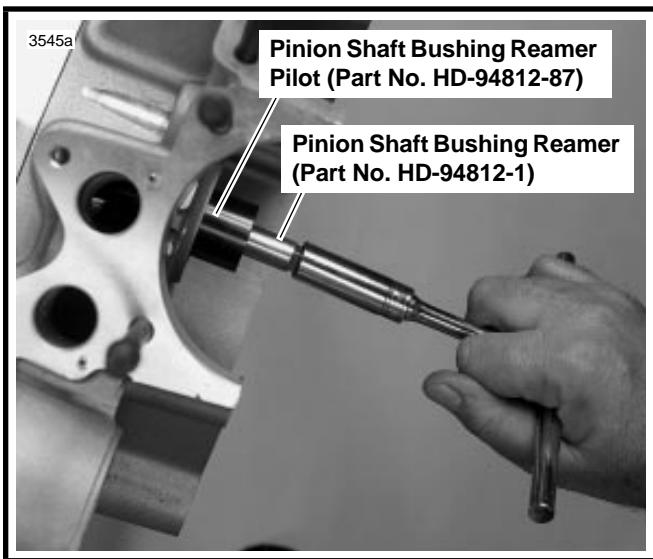

Figure 3-60. Line Reaming Pinion Shaft Bushing
2. See Figure 3-60. Install PINION SHAFT BUSHING REAMER PILOT \(Part No. HD-94812-87\) into right crankcase roller race. Insert PINION SHAFT BUSHING REAMER \(Part No. HD-94812-1\) through the pilot.